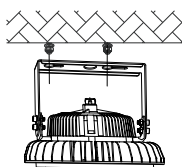
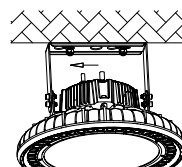

Figure 5
Figure 6
3. The holes on the bracket align with the expansion screws (Figure 5), then push the light to one side (Figure 6), finally tighten the nut of the screws.